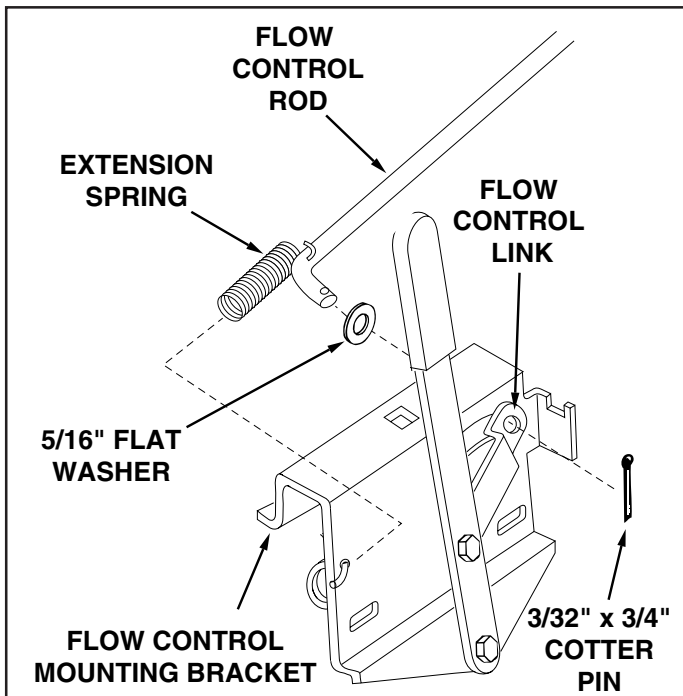

FIGURE 8
20. Place a 5/16" flat washer over the end of flow control rod and insert the rod through the slot in the flow control mount bracket and through the hole in the flow control link. Secure with a 3/32" x 3/4" cotter pin. See figure 8.